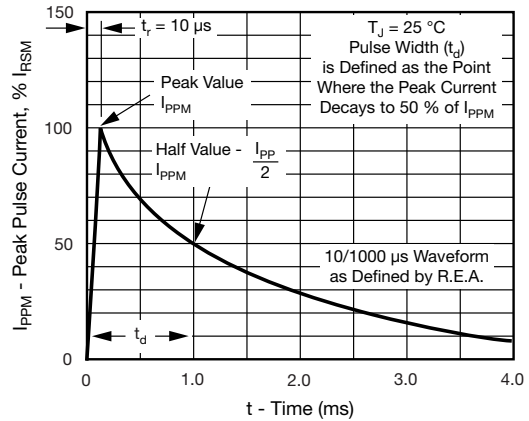
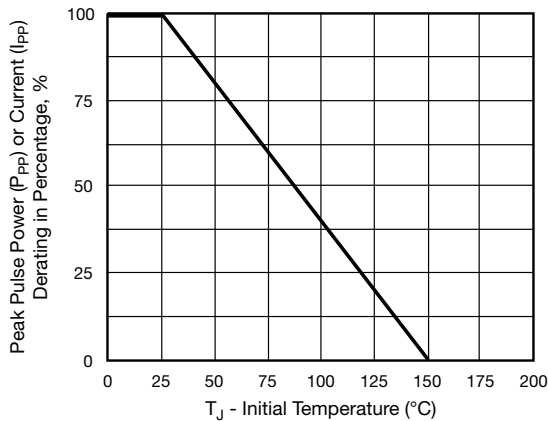

Fig. 3 - Pulse Waveform
Fig. 2 - Pulse Power or Current vs. Initial Junction Temperature
⁽¹⁾ Non-repetitive current pulse, per fig. 3 and derated above T_A = 25 °C per fig. 2. Rating is 300 W above 78 V
- (1) Pulse test: t_p ≤ 50 ms
- (2) Surge current waveform per fig. 3 and derate per fig. 2
- (3) For bi-directional types having V_{WM} of 10 V and less, the I_D limit is doubled
- (4) All terms and symbols are consistent with ANSI/IEEE C62.35
- (5) For the bi-directional SMAJ5.0CA, the maximum V_{BR} is 7.25 V
- (6) V_F = 3.5 V at I_F = 25 A (uni-directional only)